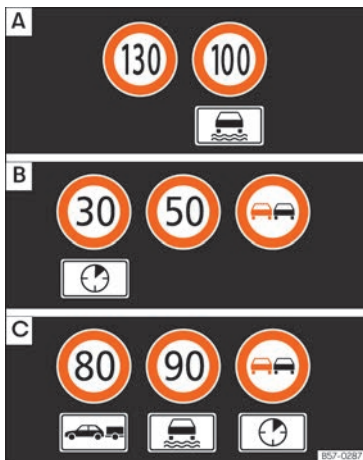

Fig. 77 On the instrument panel display: examples of speed limits or overtaking prohibitions with their respective additional signs.
and evaluating the information from the camera, the navigation system and the current vehicle data, up to three valid road signs are displayed, »» Fig. 77 [B] with their additional signs.
- **First:** The sign that is currently valid for the driver is shown in the left side of the screen For example, a maximum speed limit of **130 km/h (100 mph)** »» Fig. 77 [A].
- **Third:** A sign valid only with restrictions, e.g. No overtaking at certain times, will be displayed in third place »» Fig. 77 [C].